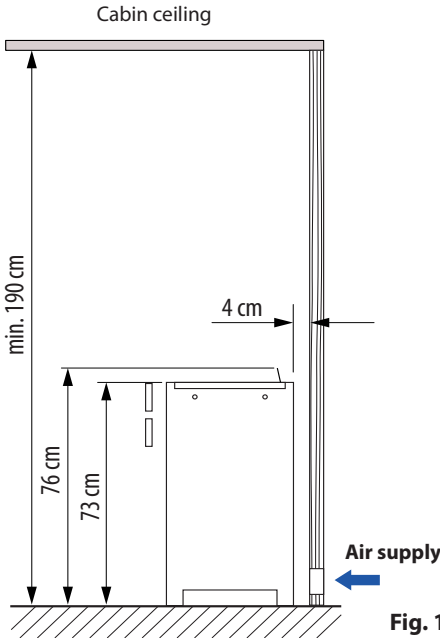

Fig. 1
- The minimum height of the sauna cabin must be **1.90 m** on the inside. (see Fig 1.)